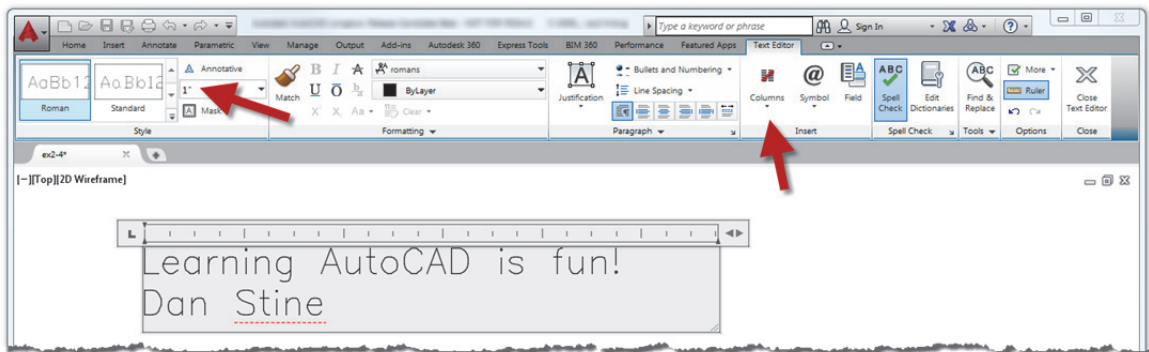

FIGURE 2-4.3 Mtext; text typed in text editor window; Text Formatting ribbon displayed
6. In the *Mtext Editor* you will type the following text (Figure 2-4.3):
7. When finished typing text, click the **Close Text Editor** button on the *Ribbon* shown in Figure 2-4.3 above; notice the *Ribbon* changes while in text edit mode.
TIP: *With the Mtext Editor open (Figure 2-4.3), you can Copy/Paste text in from other programs such as MS Word. Most of the formatting (e.g., font, bold, underline, etc.) will be preserved.*